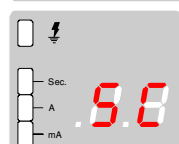

Fig. 4
- Shorts that are present across terminals 11 and 13 (typically < 33Ω and purely resistive) will force the unit to display the characters as shown in Fig.4. However, the unit still remains functional other than not being able to detect and display fault currents.